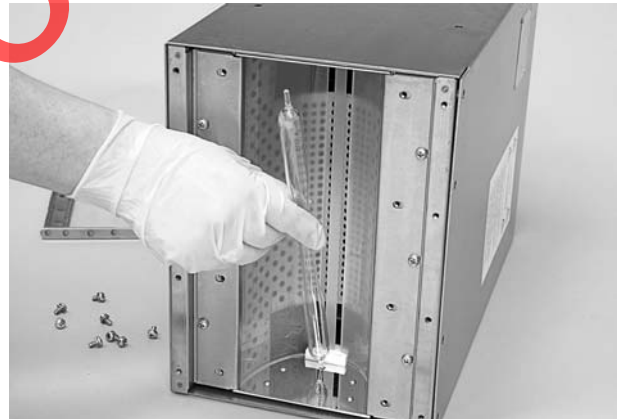

Figure 4-2 Bulb Replacement
4. See Figure 4-2. Grasp the ends of the bulb and push it to one side. Lift one end of the bulb out of the retaining hole; the other end of the bulb should come out of the other retaining hole.